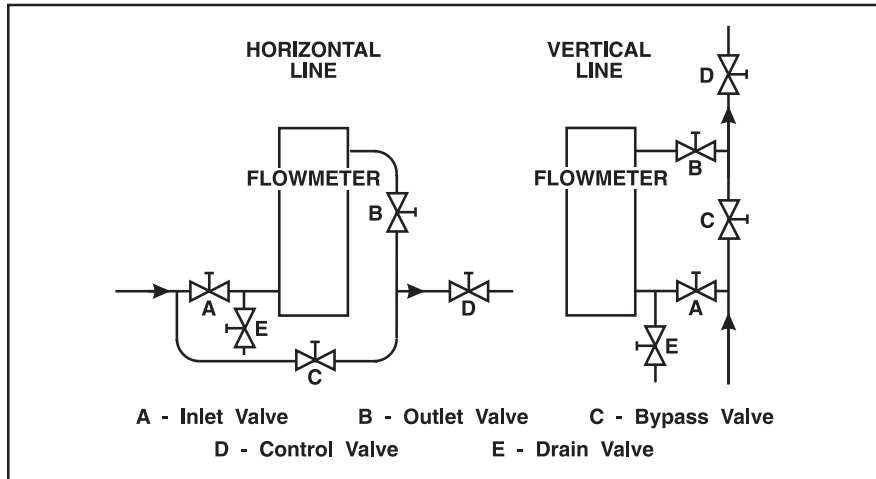

Figure 2-1 Typical Bypass Installation
- e. Installation of a bypass piping arrangement is recommended, Figure 2-1. Bypass piping permits the meter to be isolated from the flow line for servicing and cleaning.